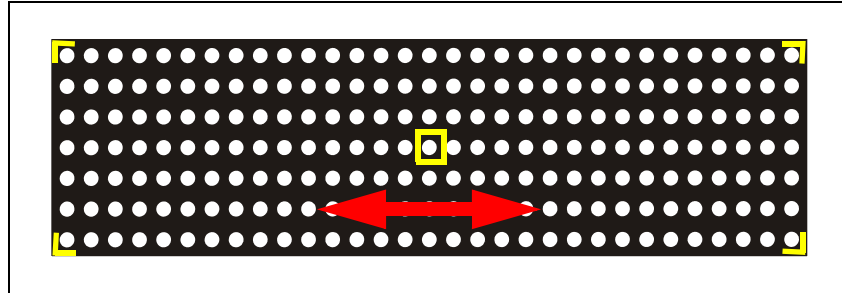

Figure 5-24. Locate X position of calibration plate
The camera view with a graphical support pattern is shown on the screen See Figure 5-24.
11. Use the graphical support pattern to locate the X position of the calibration plate. See Figure 5-24.